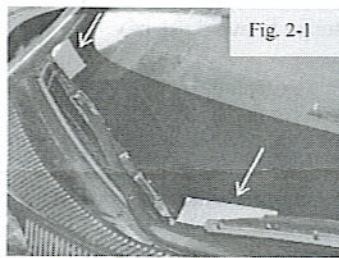

Fig. 2-1
- ⚠ (b) Apply tape to windshield to mark wiper locations. (Fig. 2-1)